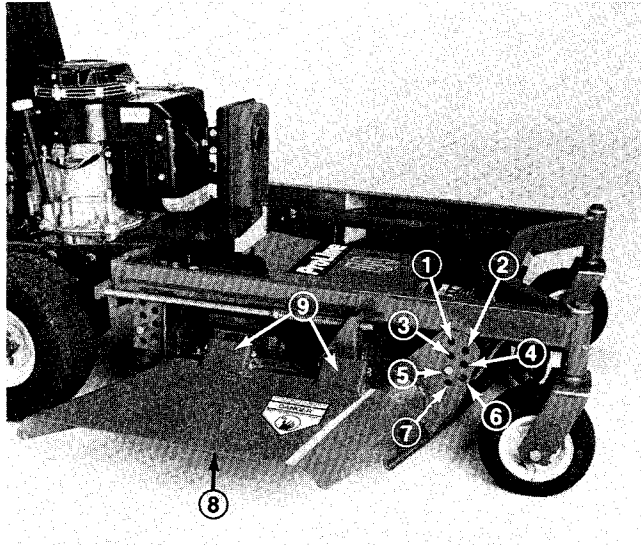

Figure 5
2. Mount cutting unit to carrier frame with four (4) clevis pins and hair pin cotters (Fig. 5).